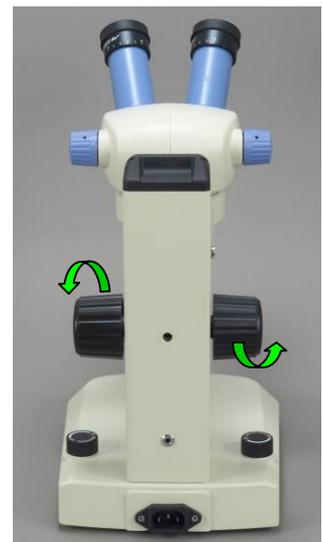

Fig. 2
2.6 Adjusting tension of focusing knobs (Fig.2)